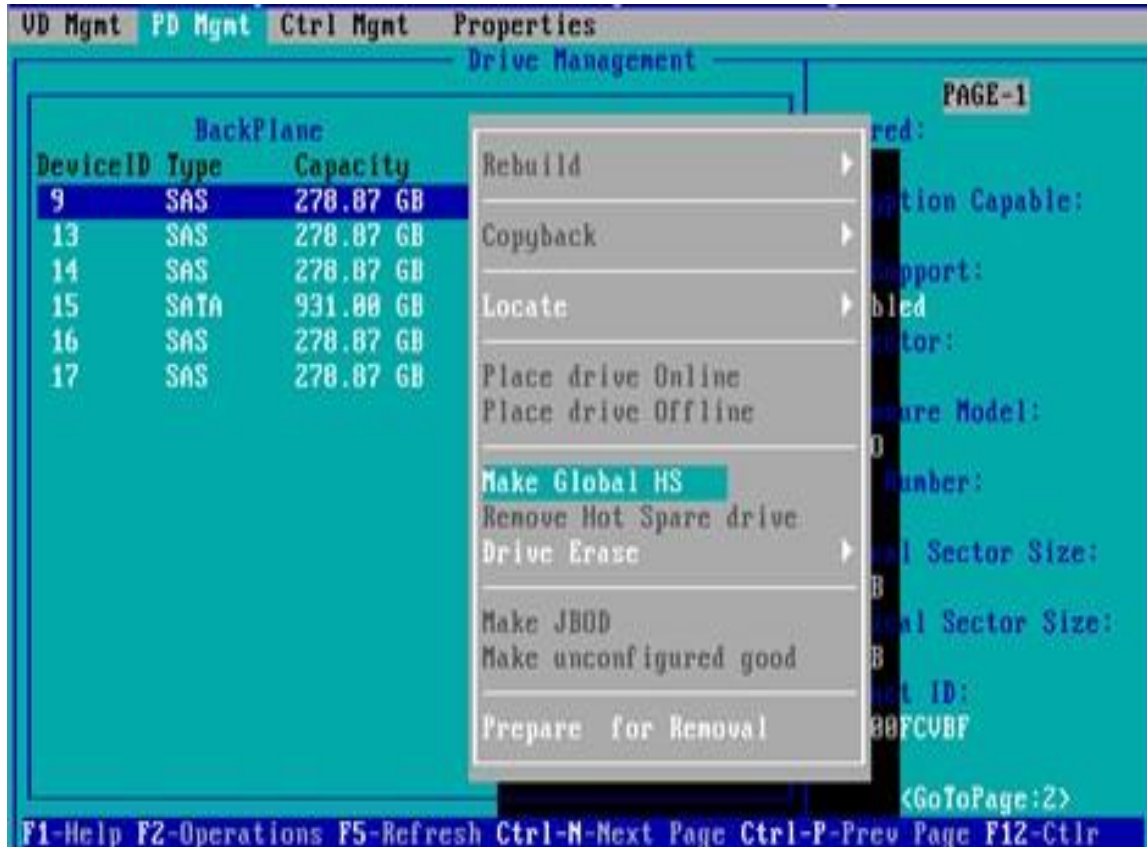

Figure 6-93
b) Enter the interface shown in figure 6-93, select make global HS, and press enter to complete the configuration of global hot spare.